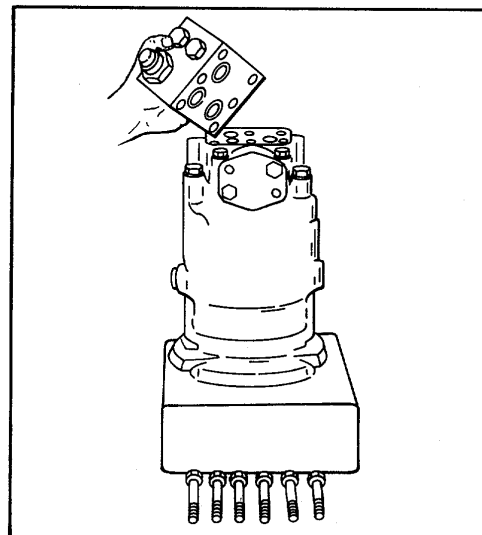

Figure 9.
4. Grasp manifold to prevent it from dropping and remove remaining two mounting bolts. (Refer to Fig. 9.) There is no gasket between the manifold and end cap. Sealing is obtained by O-rings and backup rings.